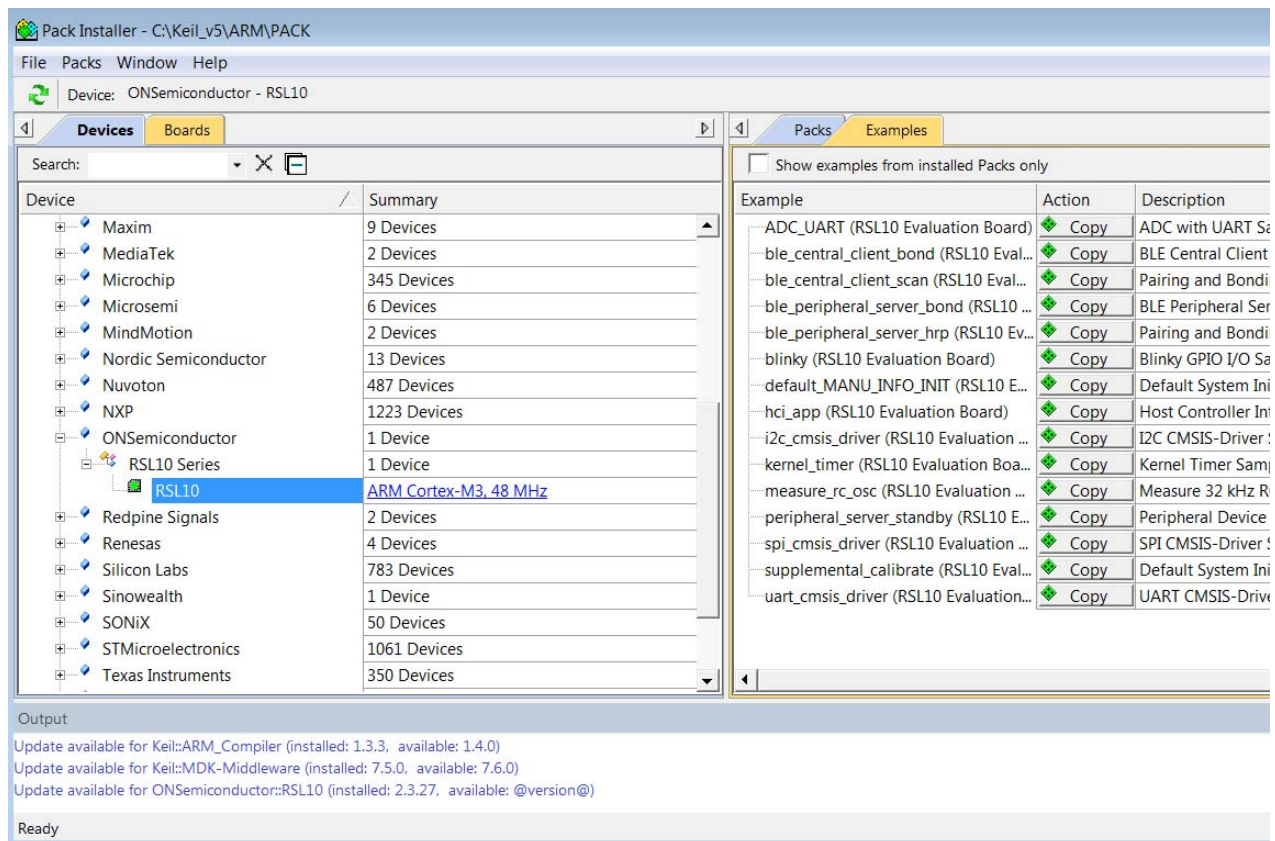

Figure 19. Pack Installer after RSL10 CMSIS-Pack is Installed in the Keil μ VISION IDE
5. The RSL10 CMSIS-Pack now appears in the list of installed packs. In the **Devices** tab, if you expand **All Devices > ON Semiconductor > RSL10 Series**, you can see RSL10 listed there. You can manage your installed packs in the **Packs** tab. Expanding **ON Semiconductor > RSL10** makes the **Pack Properties** tab display the details of the RSL10 CMSIS-Pack. Figure 19 illustrates what the Pack Installer perspective looks like after installation.